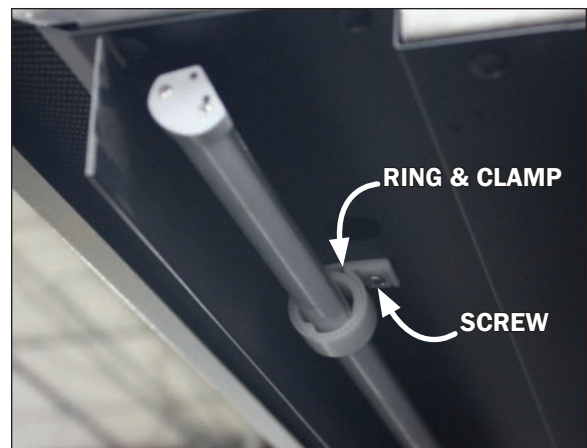

Fig. 7 LED light & ring / clamp
2. Remove the screws from the light clamps (Fig. 7) while keeping hold of the light. Once the screws are removed the light rod will come away from the case with the clamps still holding to the light.